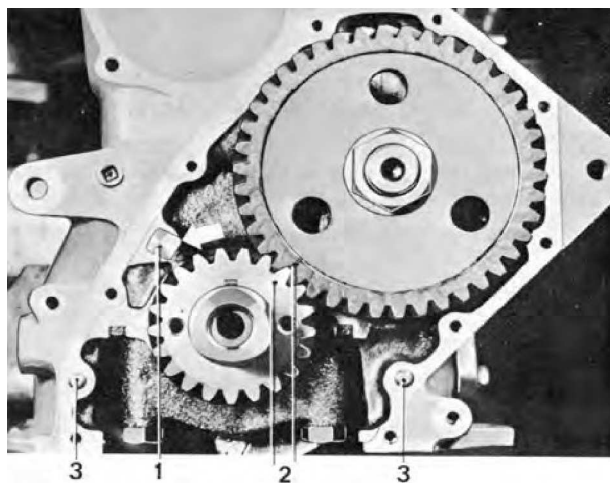
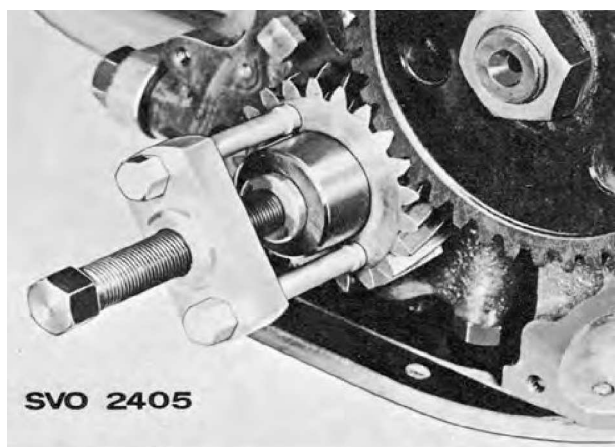
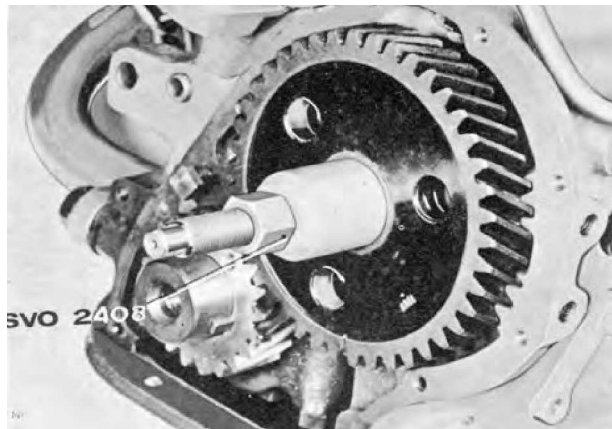

Fig. C14. Marking on timing gears (6-cyl. engine)
Fig. C15. Removing the crankshaft drive (4-cyl. engine)
Fig. C16. Fitting the camshaft gear(4-cyl. engine)
4. Pull off the crankshaft drive with puller SVO 2405, see Fig. C15. Unscrew the oil nozzle, blow it clean and then refit it according to Fig. C14, so that the oil jet is aimed at the meshing of the timing gears.
5. Fit the crankshaft drive with tool SVO 2407, and the camshaft gear with tool SVO 2408, see Fig. C16. Fit the hub on the crankshaft. The hub can be drawn into position by the bolt for the crankshaft pulley. Do not push the camshaft towards the rear so that the sealing washer on the rear end loosens. Check that the gears have the correct position relative to each other, as shown in Fig. C14. Tool SVO 2407 has wrench flats intended for turning the crankshaft. The measurements for the tooth flank clearance and axial play of the camshaft, which is determined by the spacer ring behind the camshaft gear, are to be found in the "Specifications". Centre and fit the timing gear cover and the rest of the parts according to points 4-8 under "Replacing the timing gear cover (4-cyl. engine)".
4. Pull off the camshaft gear with puller SVO 2822. Screw out the oil nozzle, blow it clean and refit it according to Fig. C14. The timing gears are lubricated from the oil nozzle.
6. Fit the camshaft gear with tool SVO 2408, see Fig. C16. When the timing gear drive markings coincide with each other, then the piston for No. 6 cylinder is at top dead centre, firing position. Do not press the camshaft backwards so the sealing washer at the rear end loosens. Fit the nut and tighten it to a torque of 13–15 kgm (94–108 lb.ft.).